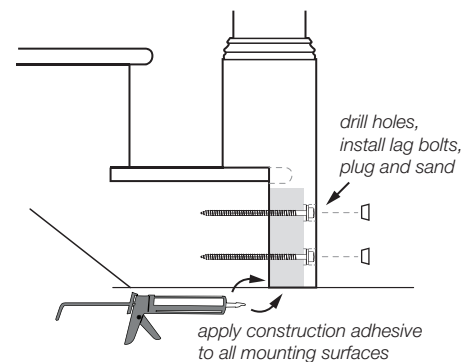

figure 9
4. Drill countersunk holes in newel base for lag bolts and apply construction adhesive to mounting location. Put newel in place and install lag bolts to secure (figure 9). Plug holes and sand.